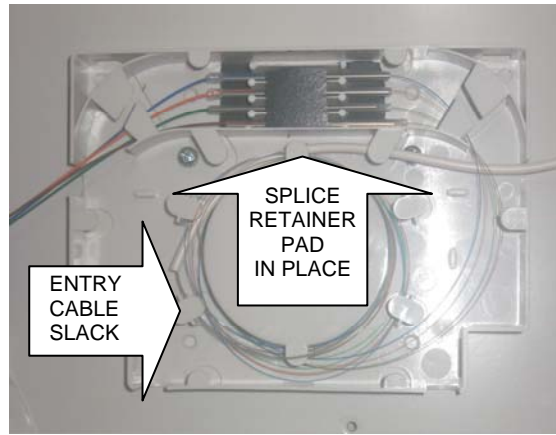

Figure 7
16. – Splice the fibers to industry methods and secure the spliced fibers to the splice tray. Install the small foam rubber retainer as shown in Figure 7.